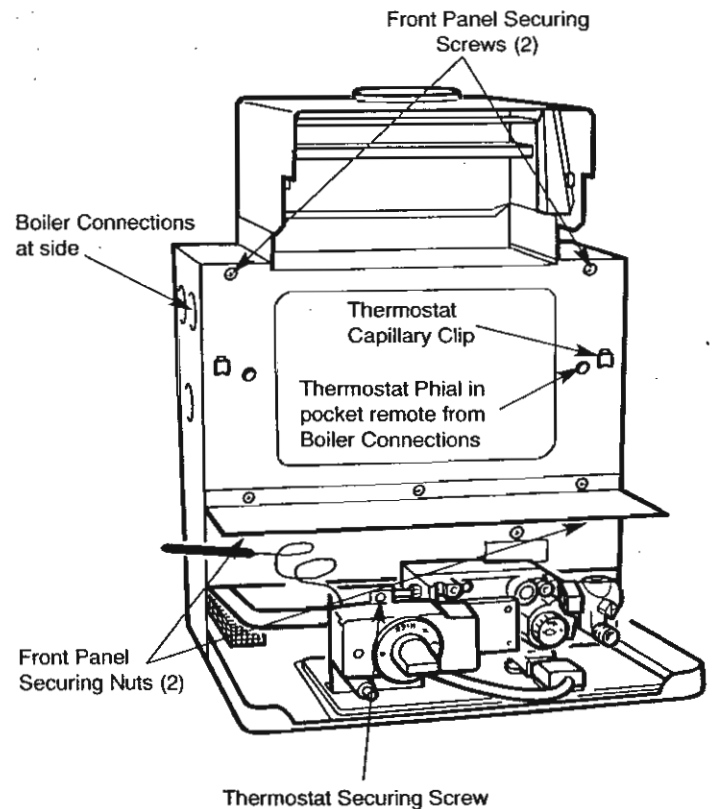

Fig. 13. Boiler Assembly
7. Remove the front panel (fig. 13).
### Boiler Thermostat (Fig. 13)